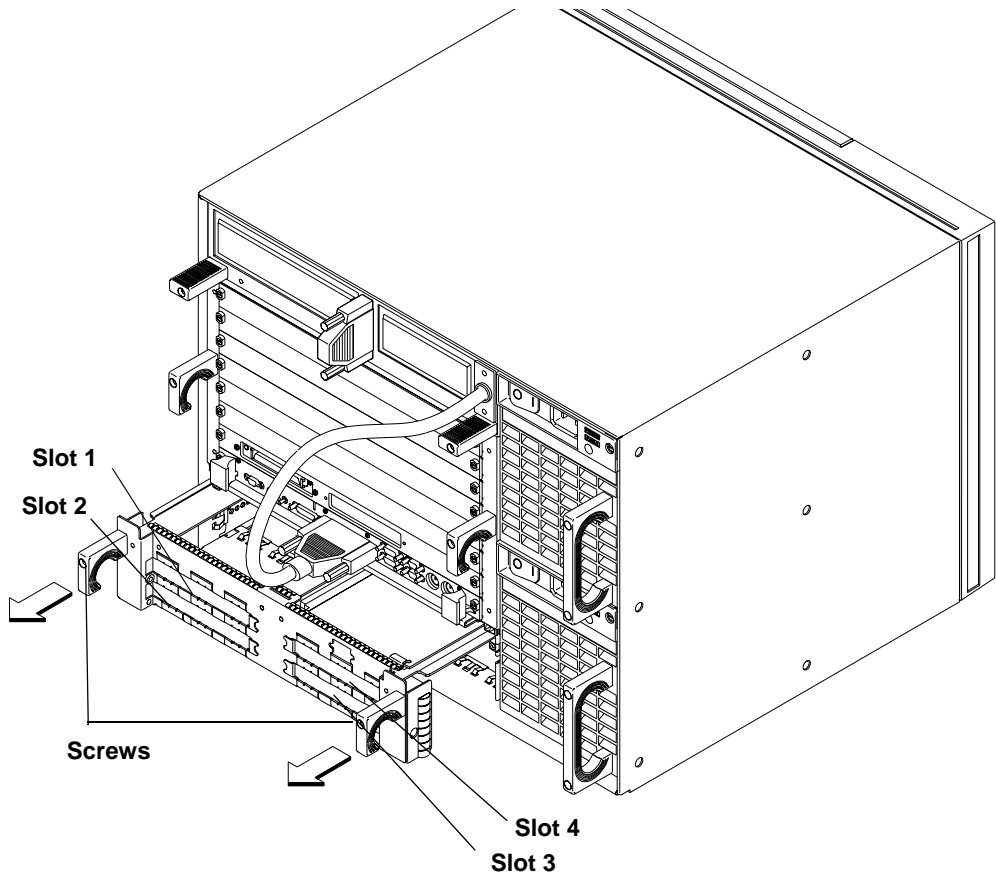

Figure 4-1 **Removing the EISA Tray**
- 4 Grasp the EISA module handles and pull the EISA module out of the chassis, as shown in Figure 4-1.